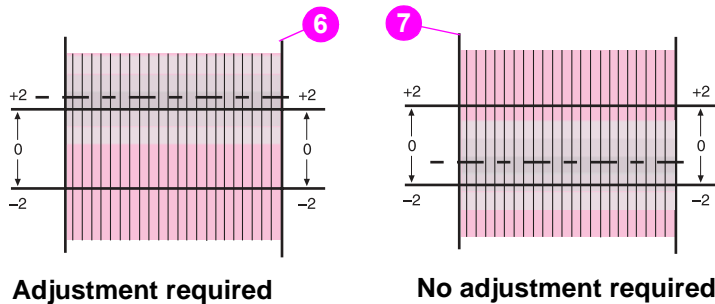

Figure 124. Interpreting the laser/scanner adjustment page
- 2 If any of the numbers under the *Laser/Scanner Adjustment Step 1* is *not* a zero (callout 4; figure 124) or if the center of any of the three gray bands under the *Laser/Scanner Adjustment Step 2* is outside of the zero range for any of the three colors (callout 5; figure 124), a laser/scanner adjustment is required.
The position of the center of the gray bands under the *Laser/Scanner Adjustment Step 2* are interpreted as shown in figure 124. Callout 6 shows that the center of the gray band for the magenta laser/scanner falls outside of the zero range, meaning that a laser/scanner adjustment is required. Callout 7 shows that the center of the gray band falls inside of the zero range, meaning that a laser/scanner adjustment is not required.
If you are unsure of how to interpret the *Laser Scanner Adjustment Step 1* part of the adjustment page, see figure 124.
The position of the center of the gray bands under the *Laser Scanner Adjustment Step 2* is interpreted as shown in figure 124. Callout 1 shows that the center of the gray band falls outside of the zero range, meaning that a laser/scanner adjustment is required. Callout 2 shows that the center of the gray band falls inside of the zero range, meaning that a laser/scanner adjustment is not required.